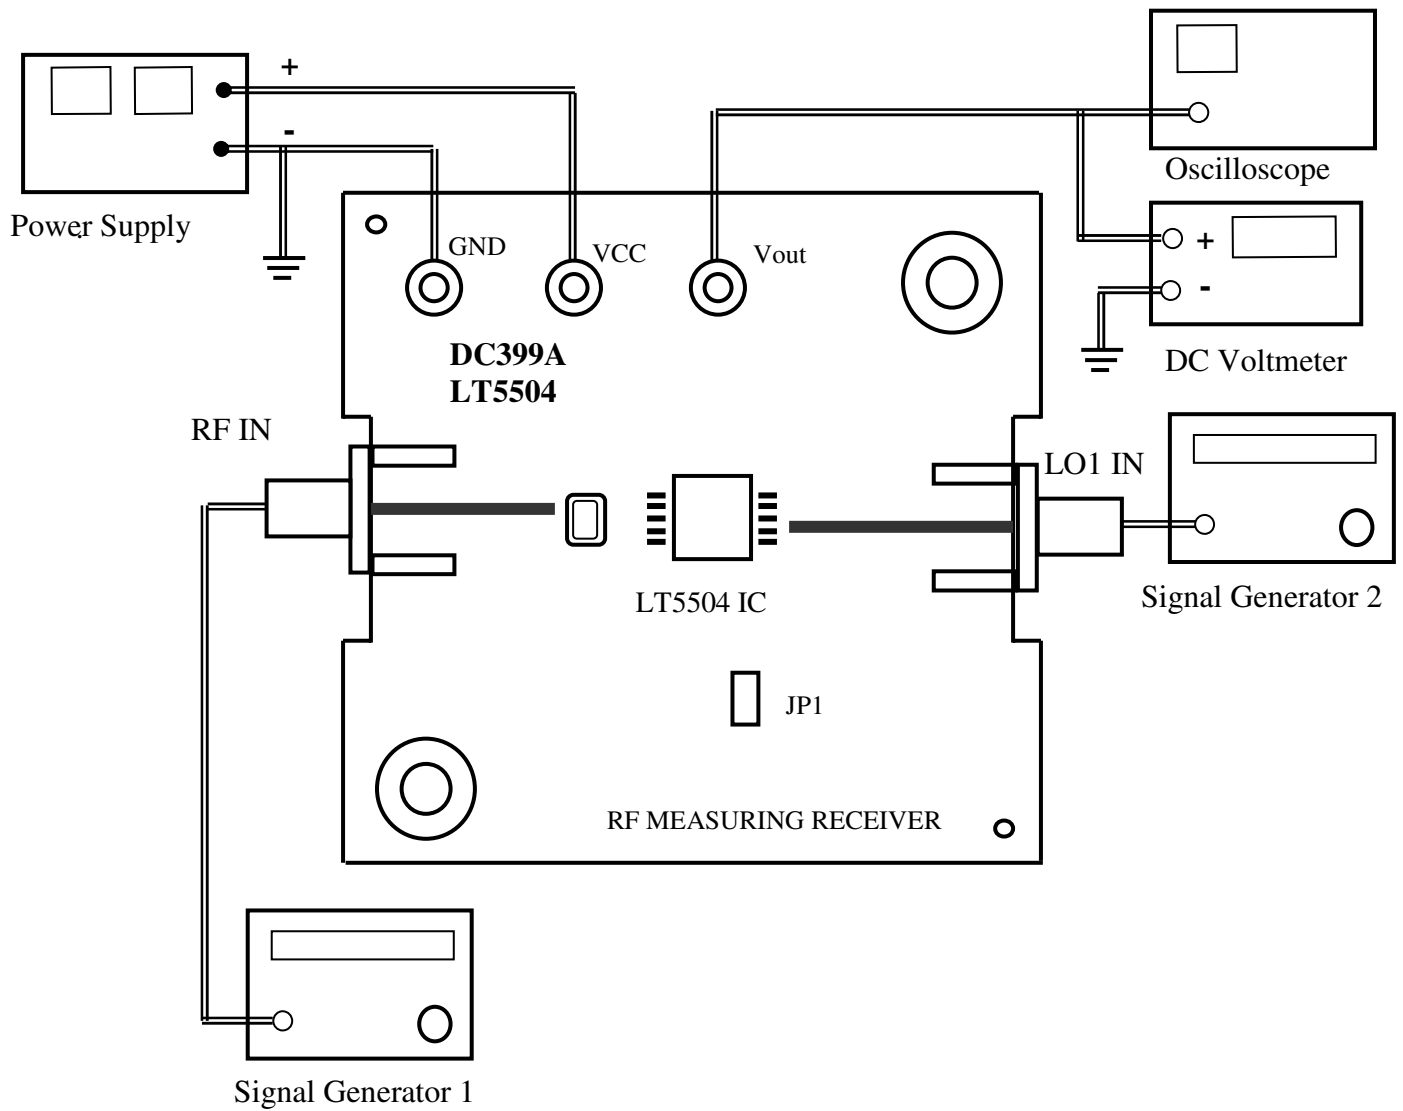

Figure 3. Test set up for LT5504 RSSI measurements.
1. Connect all the test equipment and power supplies as shown on Figure 3.